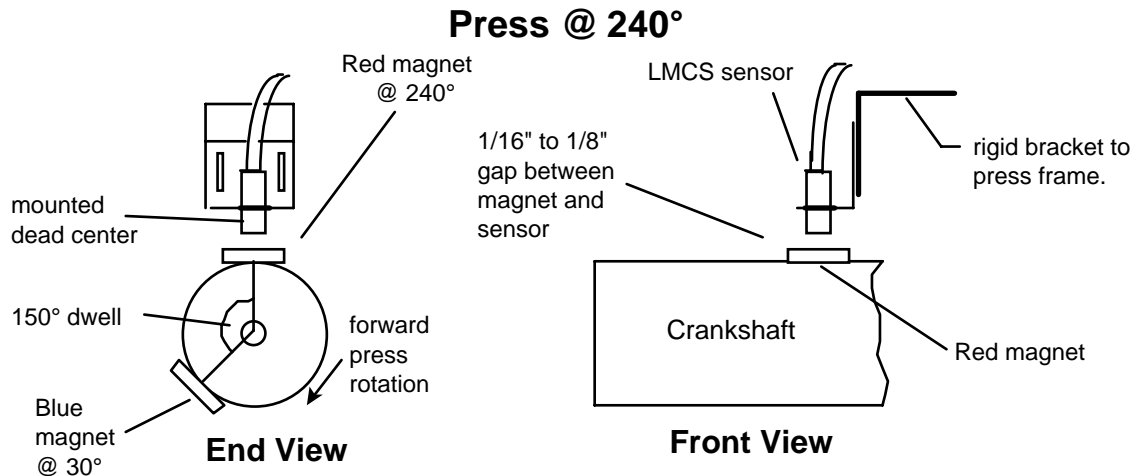

Figure 2-8. Installing the LMCS and magnets
2. Fabricate a bracket to position the LMCS 1/16" to 1/8" from the face of the magnets. If possible, make the bracket adjustable. To aid in mounting, the LMCS is supplied with a slotted mounting bracket. These slots are 1.5" apart, and approximately .1875" (3/16) wide by .75" long. Use size 6-32 hardware and lock washers. Install the LMCS as shown in Figure 2-8.